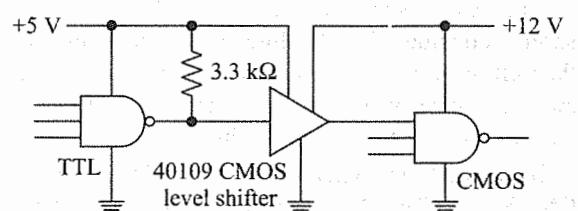

Fig. 14.41
Figure 14.41 shows a 40109, called a *level shifter*. The input stage of the chip uses a supply voltage of +5 V, while the output stage uses +12 V. In other words, the input stage interfaces with TTL, and the output stage interfaces with CMOS.
In Fig. 14.41, a standard TTL device drives the level shifter. This produces active TTL pull-up to at least +2.4 V. Beyond this level, the pull-up resistor takes over and raises the voltage to +5 V, which ensures a valid high-state input to the level shifter. The output side of the level shifter connects to +12 V (this can be changed to any voltage from 3 to 15 V). Since the CMOS load runs off of +12 V, it has better propagation delay time and noise immunity.
23. What is the purpose of the 3.3-kΩ resistor in Fig. 14.41?